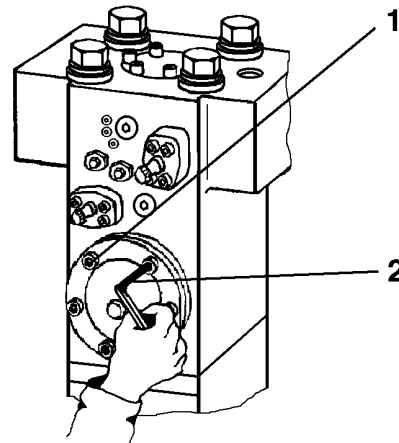

Fig. 6
- Release Allen screws (6/1) on accumulator using a size 14 Allen key (6/2) and screw them out (Fig. 6), removing the locking washers at the same time.